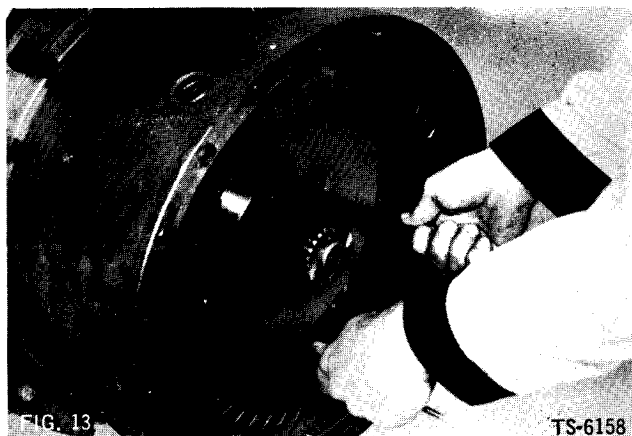

FIG. 13
13. Support weight of brake drum and hub assembly with hoist. Remove internal gear and hub from spindle assembly (Fig. 13). In some cases it will be necessary to use pry bars as shown.